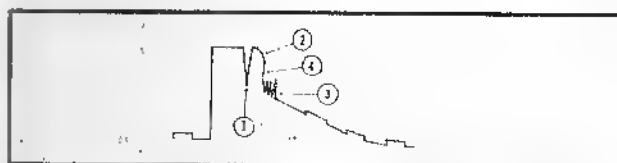

Figure 4-11. TP3 RING COUNTER MARGINAL WAVEFORM.
- A marginal waveform is shown in Figure 4-11 and described as follows: